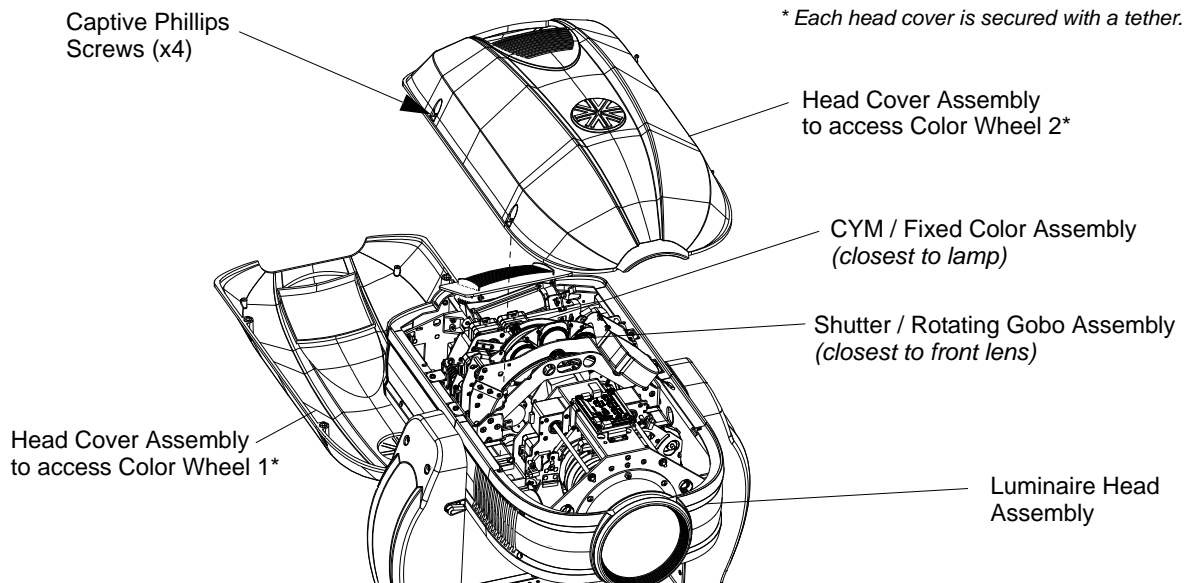

Figure A-4: Replacing Fixed Color Filters
- a. For Fixed Color Wheel 1 (closest to the rear of luminaire), remove head cover assembly as indicated in Figure A-4 by loosening four captive screws and lifting cover away from luminaire head. Note, head cover is attached by a safety tether.
- b. For Fixed Color Wheel 2 (closest to the front of luminaire), remove head cover assembly as indicated in Figure A-4 by loosening our captive screws and lifting cover away from luminaire head. Note, head cover is attached by a safety tether.
- a. For Rotating Gobo Wheel 1 (closest to the rear of luminaire), remove head cover assembly as indicated in Figure A-4 by loosening our captive screws and lifting cover away from luminaire head. Note, head cover is attached by a safety tether.
- b. For Rotating Gobo Wheel 2 (closest to the front of luminaire), remove head cover assembly as indicated in Figure A-4 by loosening our captive screws and lifting cover away from luminaire head. Note, head cover is attached by a safety tether.